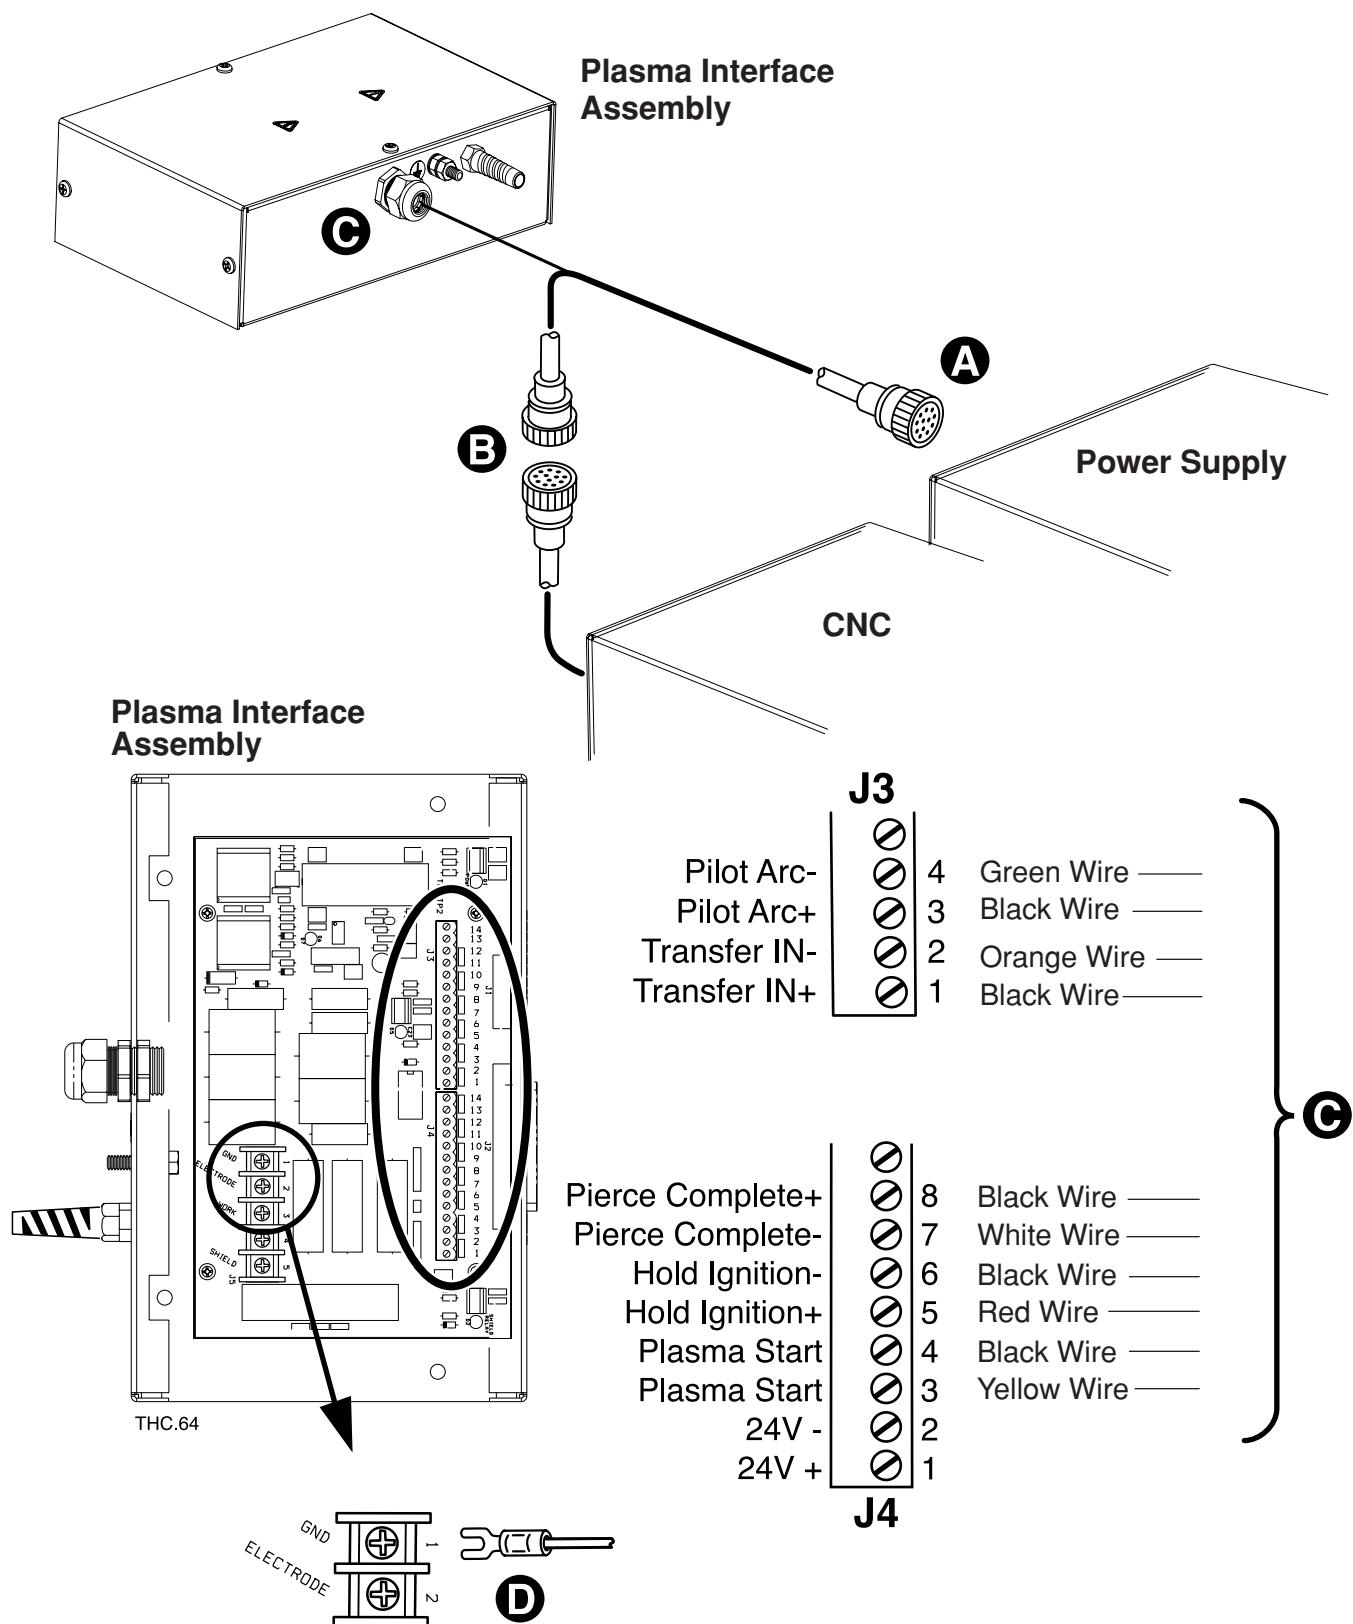

Figure 3-11 HD3070 power supply interface cable connections
See Figure 3-11.
- C** Install the 5 pairs of wires of the interface cable to the plasma interface assembly as shown in Figure 3-11.
- D** Install the wire with the fork terminal to the plasma interface assembly as shown in Figure 3-11.